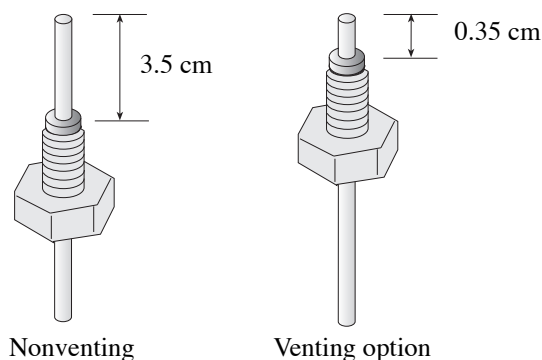
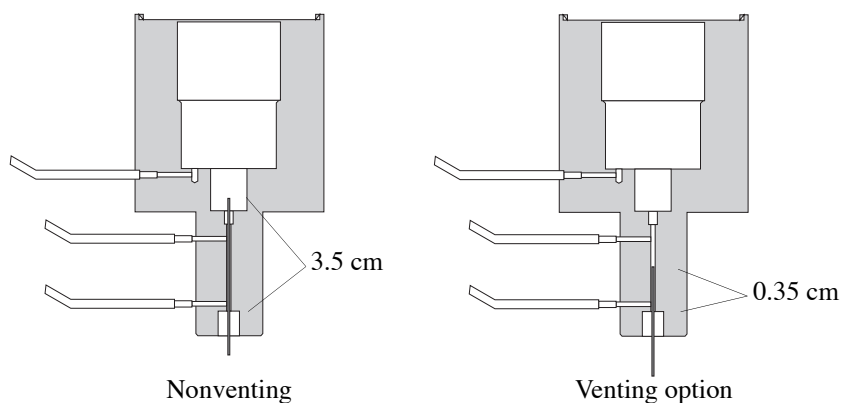

Figure 3.22. Positioning the ferrule on the column
Figure 3.23. Column placement in the detector base
4. Extend the column either 3.5 cm (nonventing) or 0.35 cm (venting option) above the top of the ferrule depending on whether or not the venting option is used (refer to Figure 3.22). Mark the column just beyond the $\frac{1}{16}$ " nut to verify proper column position.
5. Gently insert the column into the detector, maintaining the proper column position (Figure 3.22). Verify the column mark from step 4 is just below the nut. Tighten the $\frac{1}{16}$ " nut until the column can no longer be moved. Refer to Figure 3.23 for the correct column placement in the detector base.